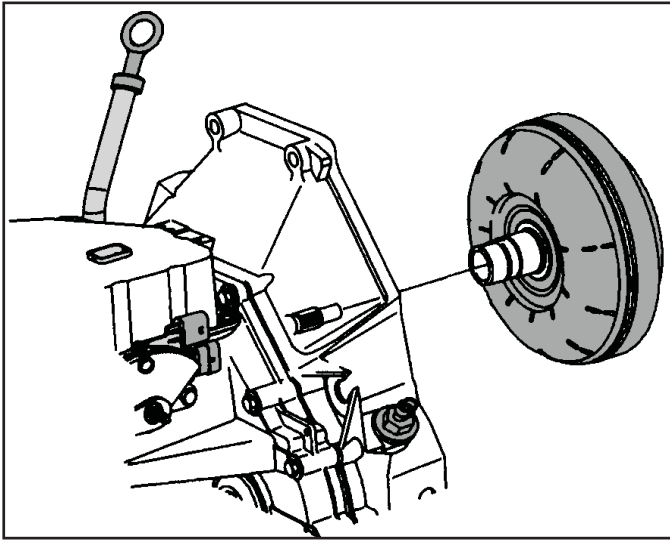

Figure 54
1. Remove the torque converter (See Figure 54).